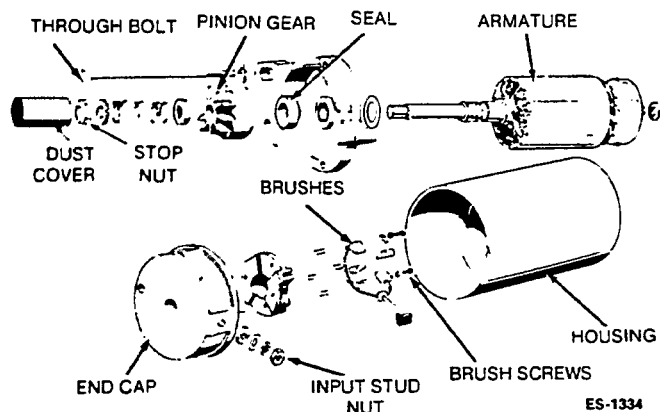

FIGURE 1. STARTER DISASSEMBLY
1. Remove the through-bolts and separate the end cap, the housing, and the armature (Figure 1).